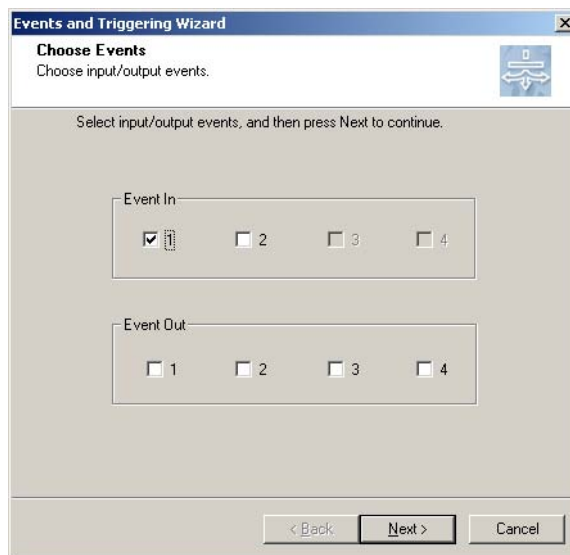

Figure 4-20 Choose Events Page
11. Click Next to open the Choose Events page (Figure 4-20).